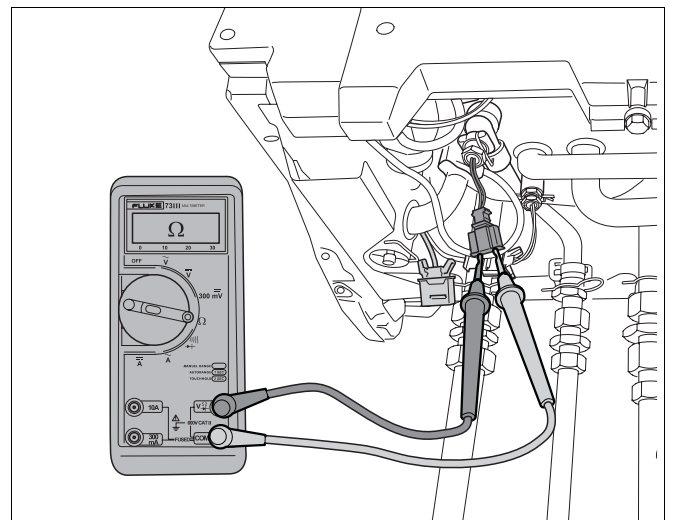
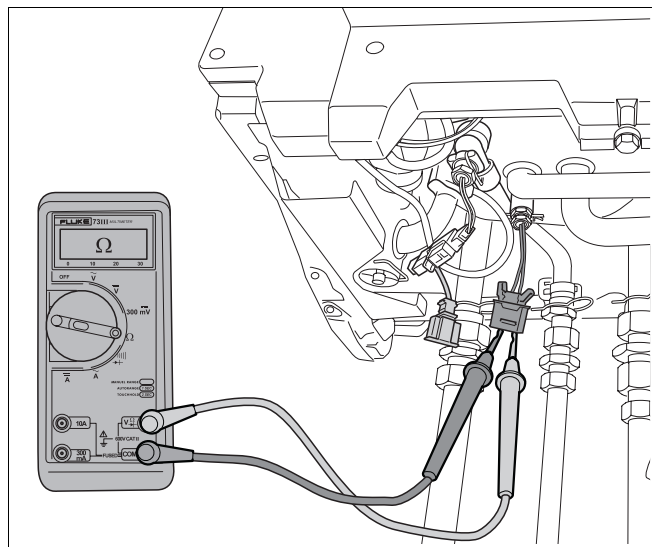

fig. 79 Measure resistance of hot water out flow sensor
fig. 80 Measure resistance of hot water heat retaining sensor
- Measure the resistance of both sensors (see fig. 79 and fig. 80).